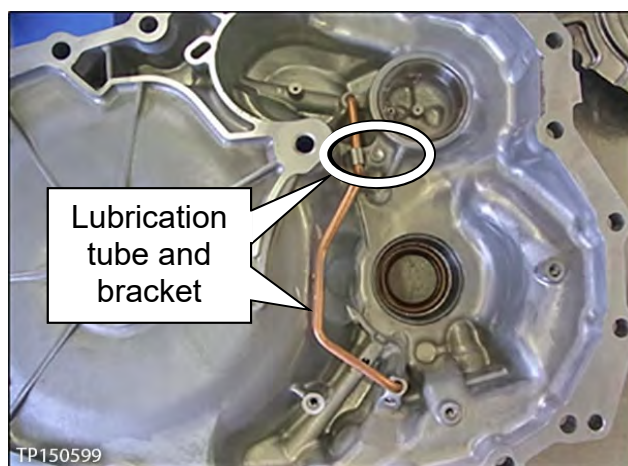
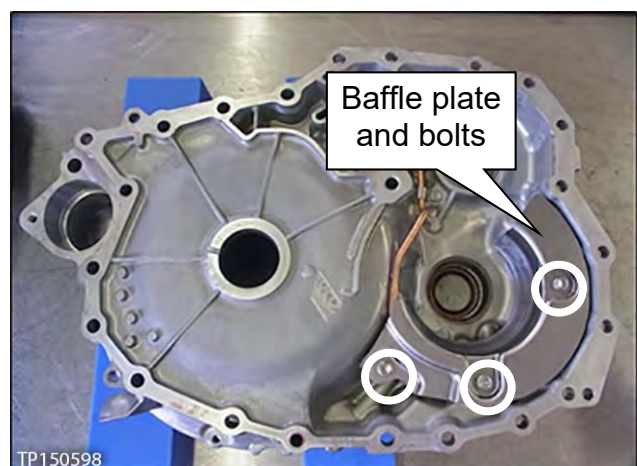

Figure 129
Figure 130
98. Install the lubrication tube, bracket and bolt, and then the baffle plate with three bolts (Figure 129 and Figure 130).